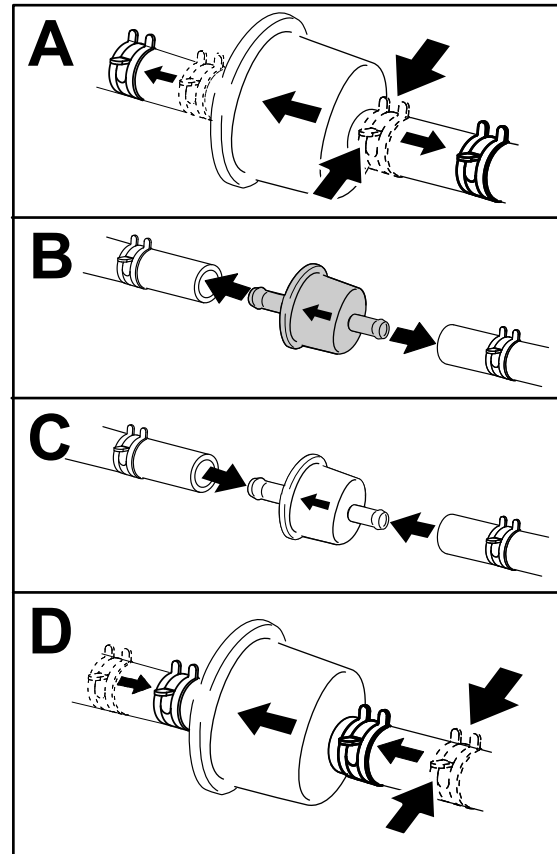

Figure 48
3. Replace the filter (Figure 48).